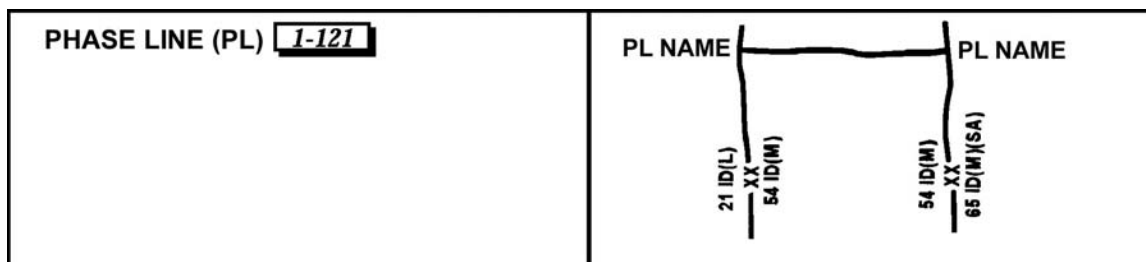

Figure 21. Phase Line.
- (3) Phase line (PLs). PLs were used to control the progress of units for reference in issuing orders or receiving reports. They should be easily recognized terrain features, normally perpendicular to the direction of advance. A PL is also used to control fires and unit movement and even to limit the advance of attacking elements. Units report their arrival at or clearance of a phase line, but they do not halt unless ordered to do so. A PL is drawn as a solid line with the letters PL at each end of the line or where appropriate to allow easy identification. A PL is identified further by a number, a letter, or code name (which can be phonetic letters, colors, flowers, cars, or any other code system) under or beside the PL abbreviation (Figure 21).